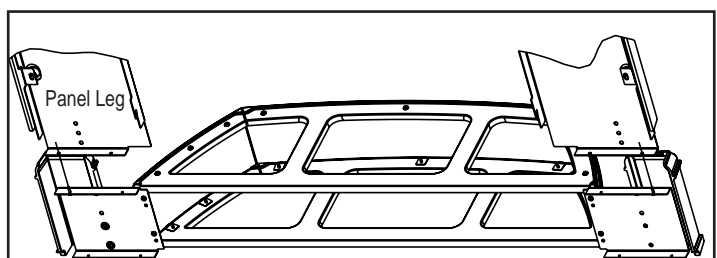

Figure 33.7
8. Place the assembled hearth support under the insert. **Figure 33.7.**